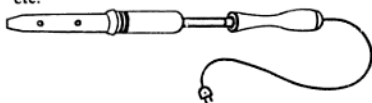

Fig. 5.7 Soldering iron
**Soldering Iron** It consists of a copper bit, wooden handle and an element embedded in the copper bit (Fig. 5.7). This element heats up the copper bit of the soldering iron and for its easy handling a wooden handle is provided. The soldering irons are generally of 65, 125 and 250 W, 230 volts and are used for soldering wire joints, commutator segments, etc.